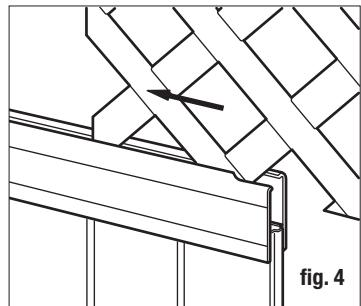

fig. 4
- Slide the lattice into the top channel of the H-rail (fig. 4).